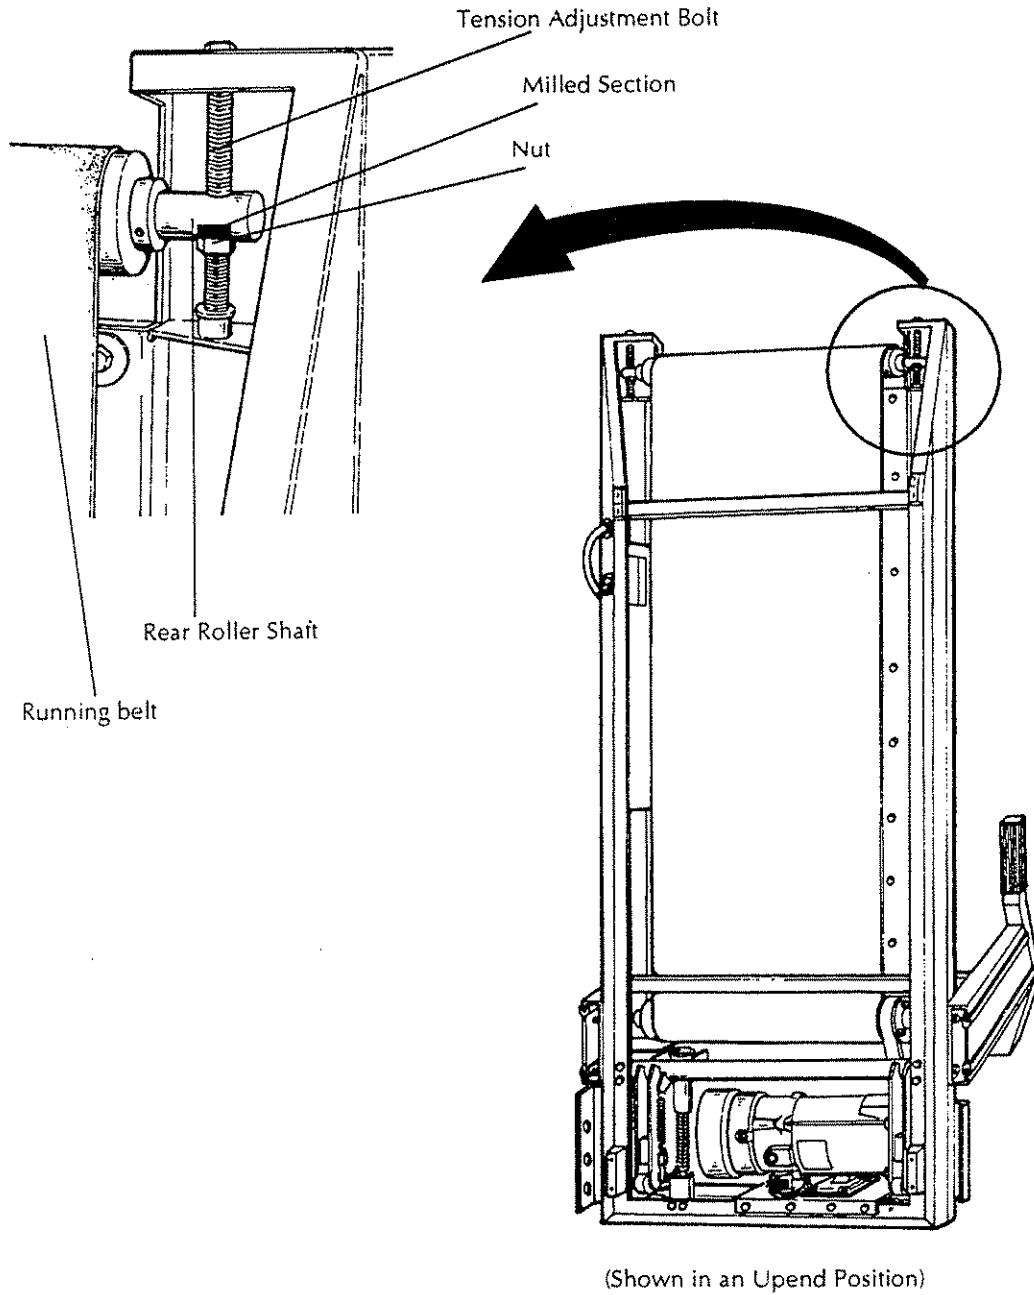

Figure 3-7: Removing/Replacing the Rear Roller Assembly
5. Remove the rear roller assembly. Refer to Figure 3-7 and complete the following:
10. Install the rear roller assembly. Refer to Figure 3-7 and complete the following:
Note: Make sure that the "milled" section of the rear roller shaft is facing toward the front of the treadmill during Step 10b. See Figure 3-7.